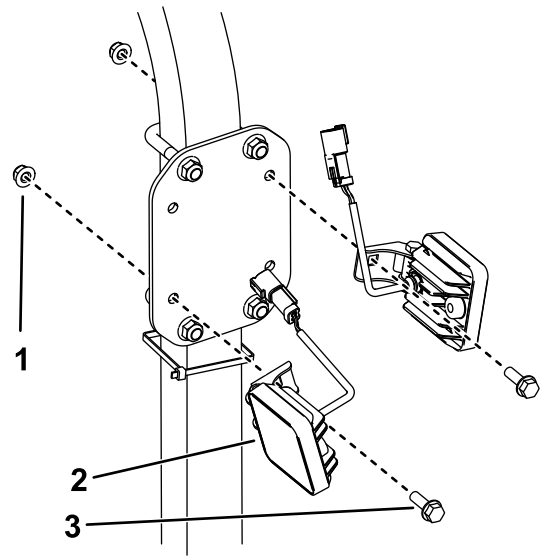

Figure 2
2. Install 2 work lights assemblies to each light mount with 2 flange-head bolts (5/16 x 1 inch) and 2 locknuts (5/16 inch) as shown in Figure 2.